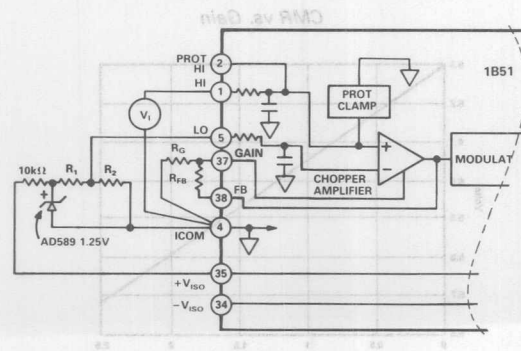

Figure 1. Input Gain Setting and Zero Suppression
The gain of the 1B51 is controlled on the input side by a pair of user provided resistors (see Figure 1). A feedback resistor of between $10\text{k}\Omega$ and $20\text{k}\Omega$ is required between the feedback pin (FB) and the gain pin. The gain setting resistor is connected between the gain pin and input side common (ICOM). The gain equation is
Since the 1B51 is a differential input device, true input referred zero suppression can be accomplished (see Figure 1). A voltage reference powered by the input side power supplies is applied to the LO terminal. Since the transfer function is